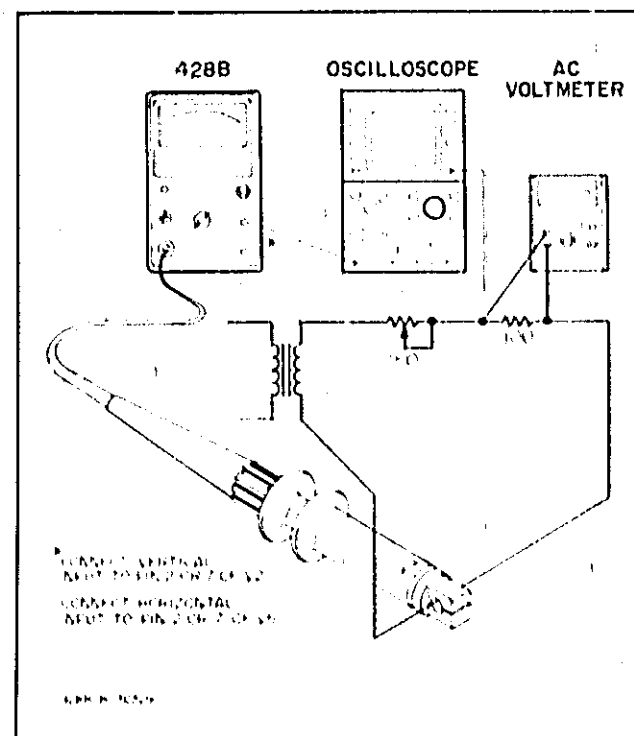

Figure 5-6. Detector Phase Adjustment
5-45. Set an ac voltmeter to the 1 volt range and connect it to Test Point 3 (Pin 7, V2) of the 428B. Clip the 428B probe around a wire which is carrying 35 mA rms ac, $f \leq 400 \text{ Hz}$. This current can be generated by a filament transformer, as in Figure 5-6, or by an oscillator
d. Except for the ac voltmeter, set up the test equipment as explained in paragraph 5-45 (see Figure 5-6).